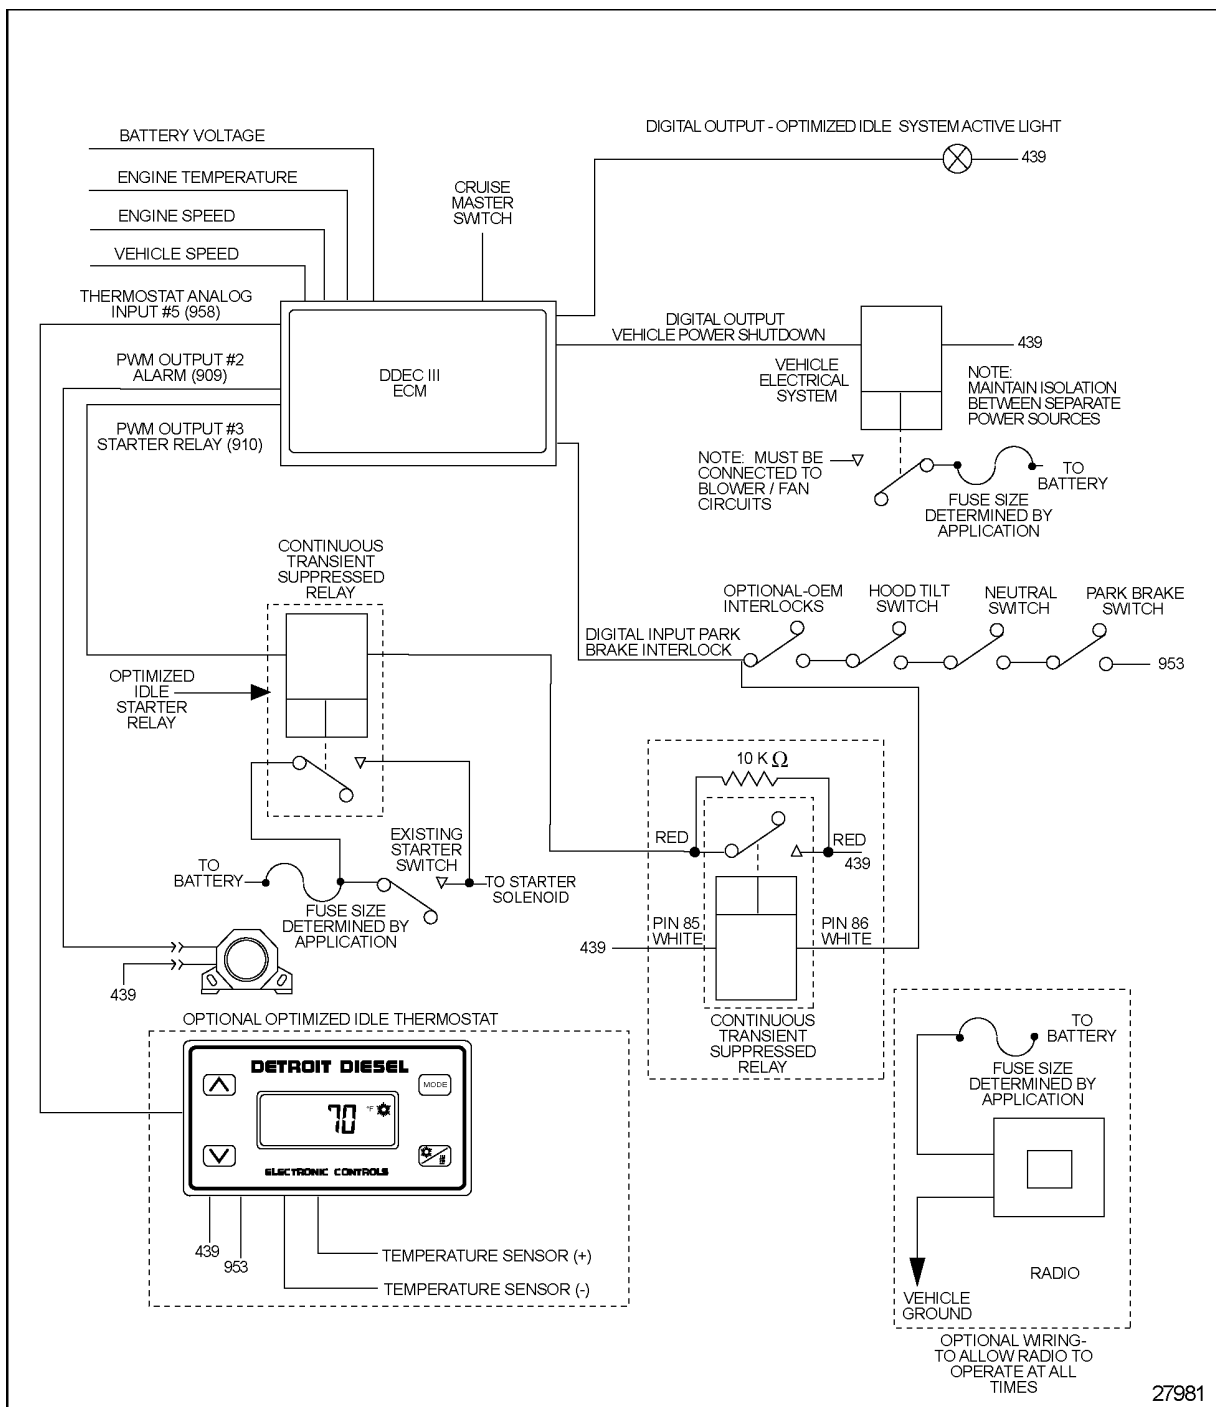

Figure 8-18 Optimized Idle System Overview
3. Locate Optimized Idle starter relay. See Figure 8-18.
1. Mount relay supplied in kit near Optimized Idle starter relay. See Figure 8-18.
7. Splice the pink wire (439) to DDEC wire 439.